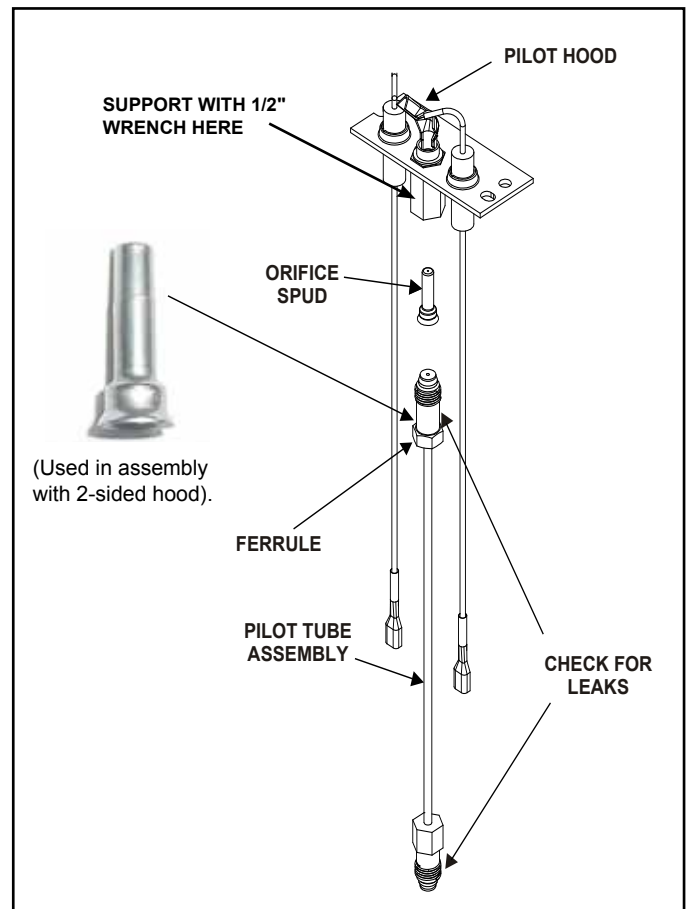

Figure 9 Pilot Assembly Detail
15. Locate the ferrule fitting located beneath the pilot assembly and with a 7/16 in. wrench, loosen the nut to remove the pilot tube. For better leverage, support the base of the pilot with a 1/2 in. wrench. See Figure 9. Remove the pilot spud and replace with the pilot spud included in the kit. Insert the pilot tube into the ferrule fitting and tighten the nut to secure pilot tube to the pilot assembly.
22. Use a commercially available, non-corrosive leak check solution to test for leaks around the pilot. Be sure to rinse off all leak check solution following testing. See Figure 9 for leak check points. Extinguish the pilot. Turn fireplace OFF.